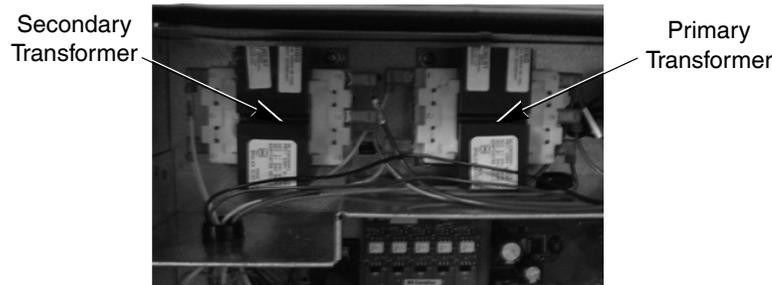

Figure 1. Transformer Locations
1. Open the electrical box, and locate the transformer to be replaced (shown in Figure 1). The transformers are located in the upper left hand corner of the electrical box.